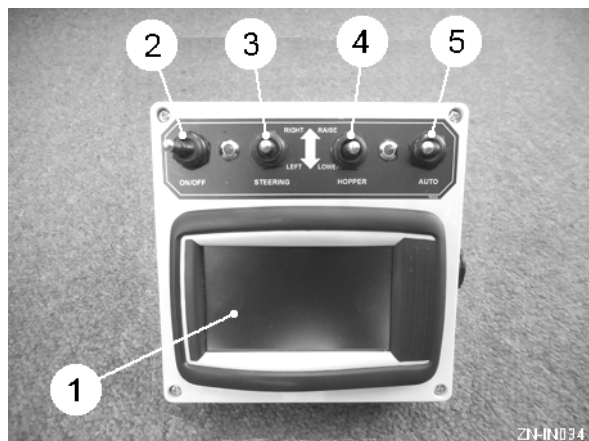

Fig 20
The control console consists of the Z-PAD touch screen (item 1, fig 20) and various manual switches.
POWER ON/OFF (item 2, fig 20).
STEERING LEFT / RIGHT (item 3, fig 20).
HOPPER RAISE / LOWER (item 4, fig 20).
HOPPER AUTO (item 5, fig 20).